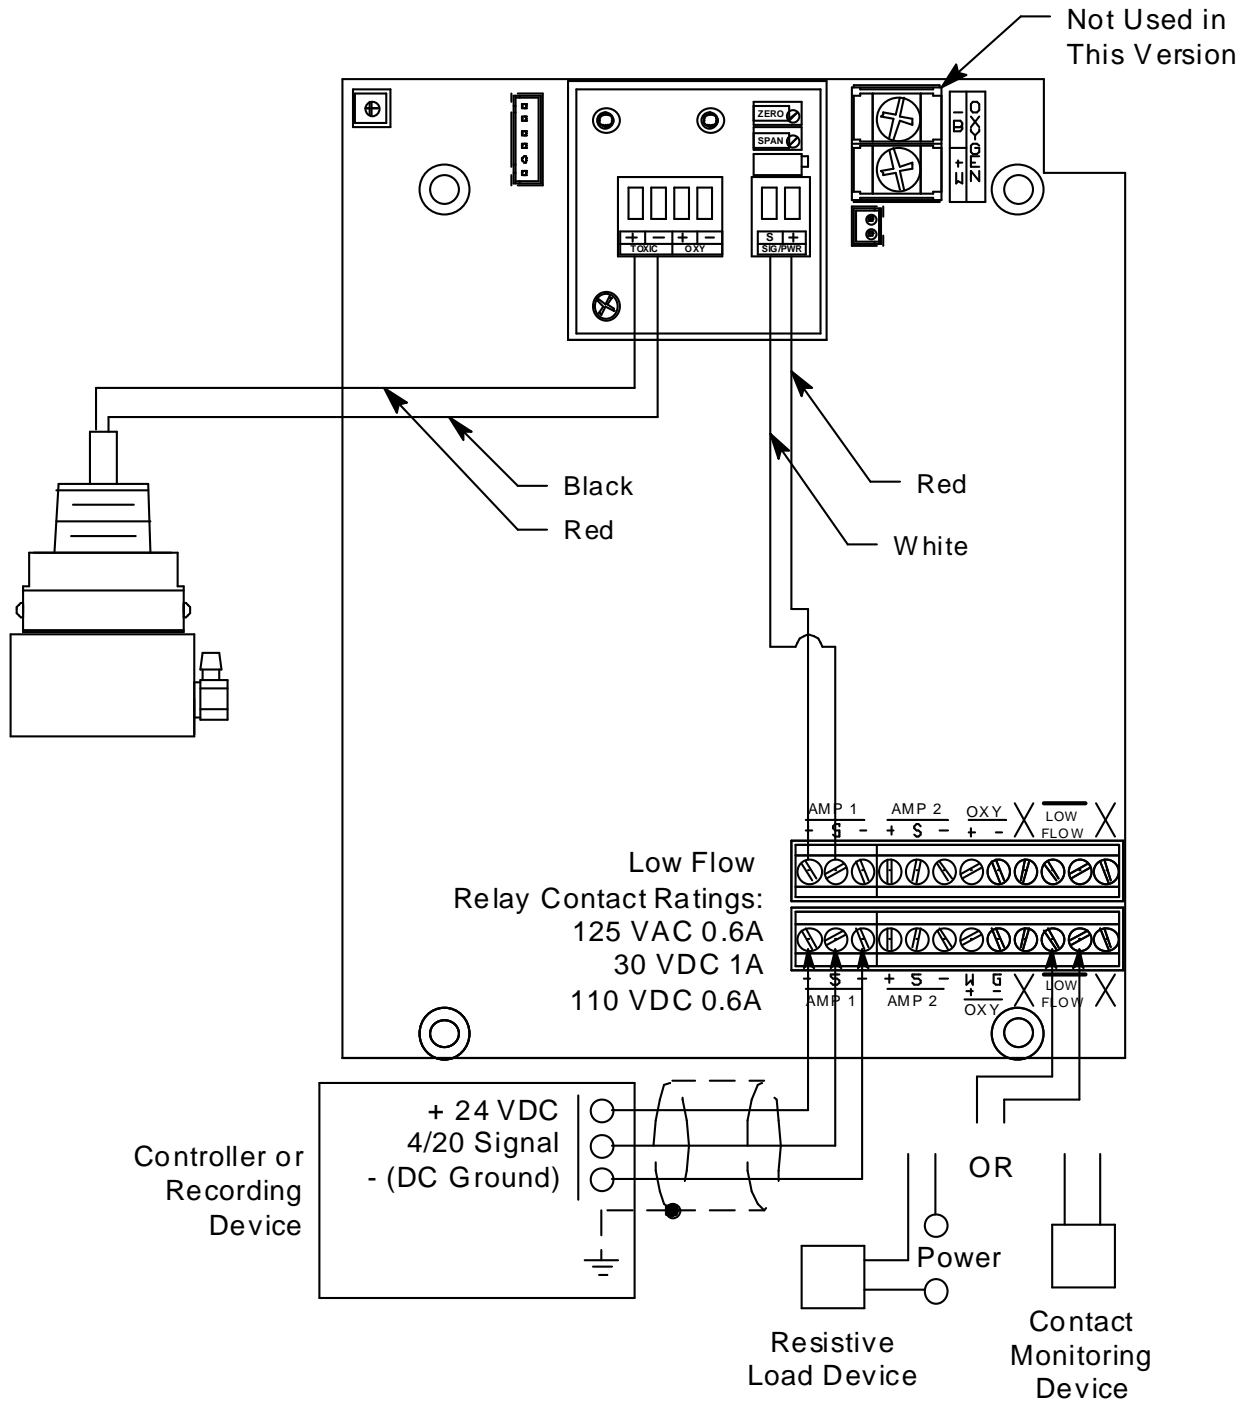

Figure 6: Wiring the Sample-Draw Detector to a Controller
5. Connect the cable to the sample-draw detector’s interconnect terminal strip as shown in Figure 6.
- Connect the wires to the applicable detector/transmitter terminal strip at the controller as shown in Figure 6. Refer to the controller operator's manual and the controller detector head specification sheet for the 35-3001A-04-03 for detector/transmitter terminal strip connections specific to the controller.